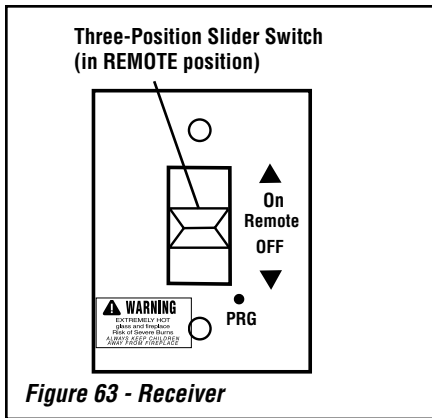

Figure 63 - Receiver
Place the three-position slider switch in the "Remote" position (see **Figure 63, next page**). Using the end of a paper clip, or other similar object, insert the end of the paper clip into the hole marked "PRG" on the Receiver front cover. The Receiver will "beep" three (3) times to indicate that it is ready to synchronize with a Transmitter.